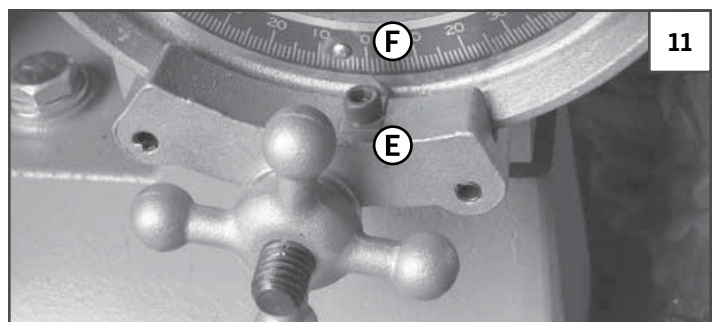

FIGURE 11: ADJUSTING BEVEL POINTER
1. Loosen the **SCREW (E)** on the pointer-mounting bracket using the supplied 4 mm Allen key. See Figure 11.
2. Align the pointer with the **ZERO (F)** on the bevel scale.
3. Re-tighten the **SCREW (E)**.